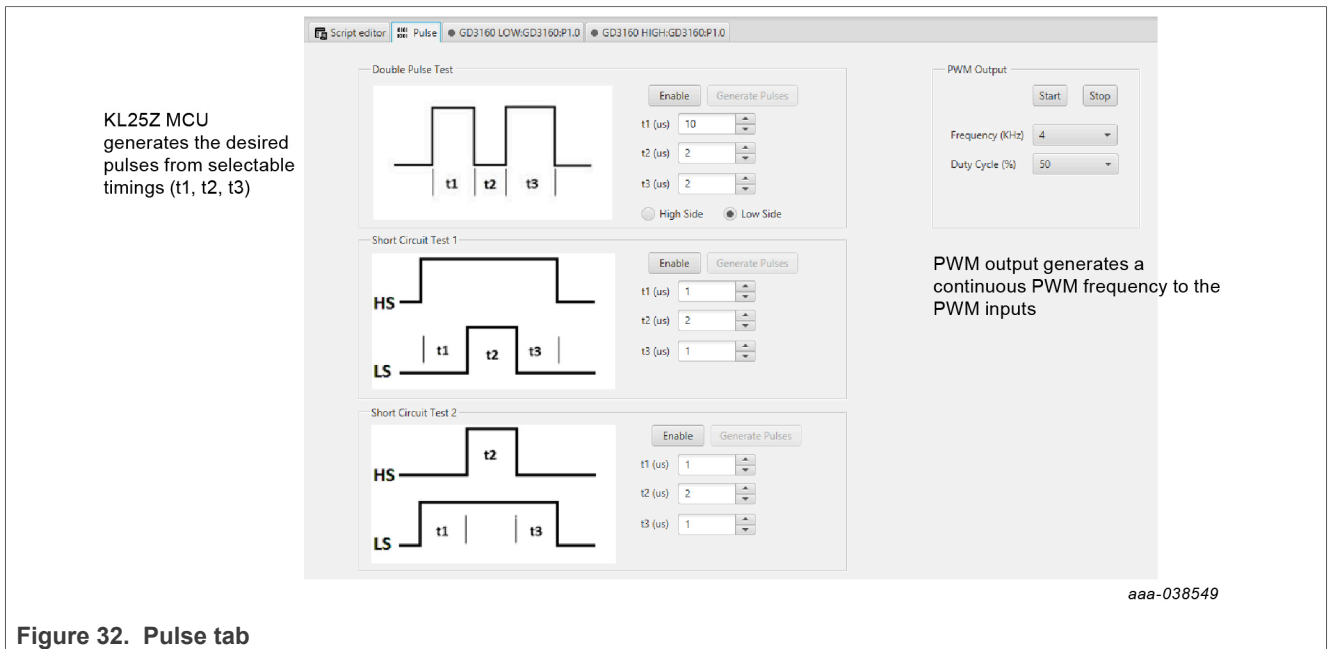

Figure 32. Pulse tab
**Note:** Double pulse and short-circuit testing can be conducted on Phase U only. See FlexGUI Pulse Tab, Figure 32.